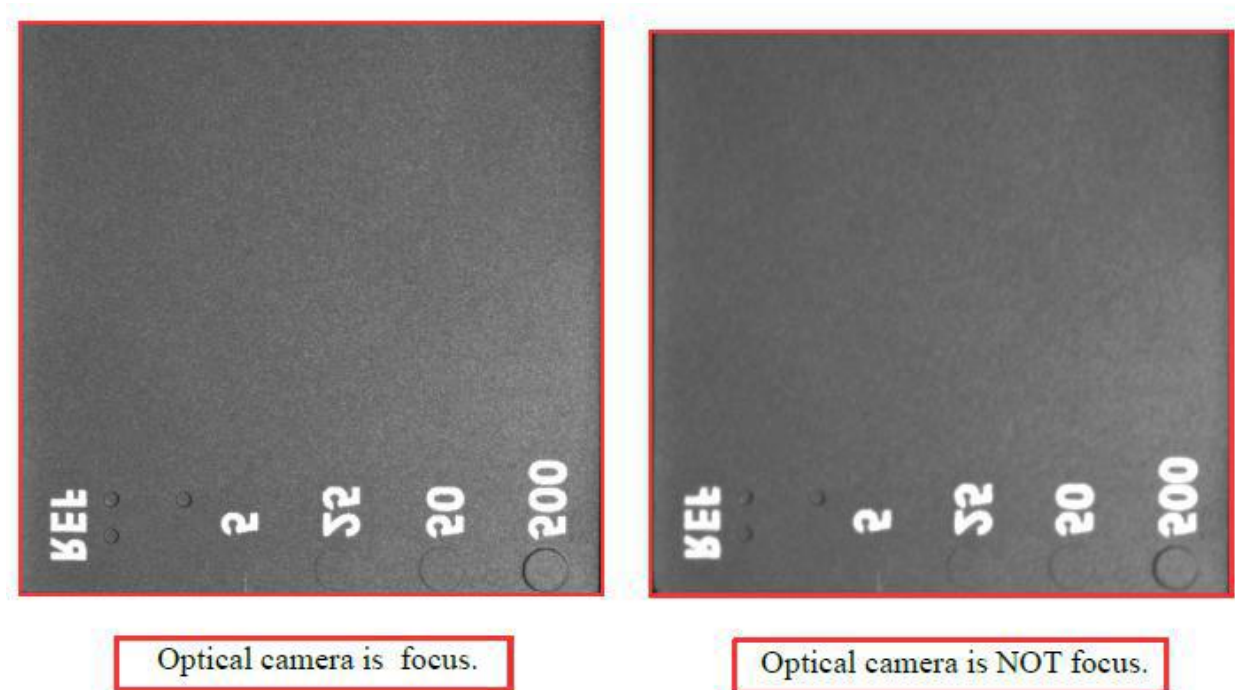

Figure 44 All Plane Focusing
43. Verify wording on all plane in focus. (REF plane, 5 plane, 25 Plane, 50 plane, 500 plane) as below Figure 44. Repeat Step 42 to 43 until all planes in focus. Tighten the dial of optical camera once completed.